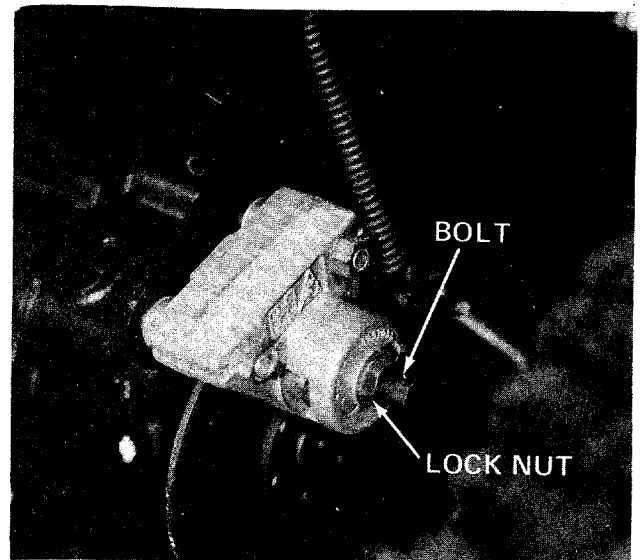

FIGURE 22.
1. Loosen the lock nut. See figure 22.